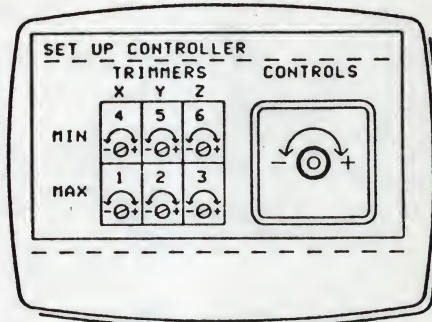

Fig 1 - Controller trimming display
- 2 The screen display at the left depicts the trimmers as seen from the underside of the Controller, and the right display represents the control axes viewed from above, the two lines of text at bottom of the screen tell you what to do, with keywords displayed black-on-white (Fig 1).